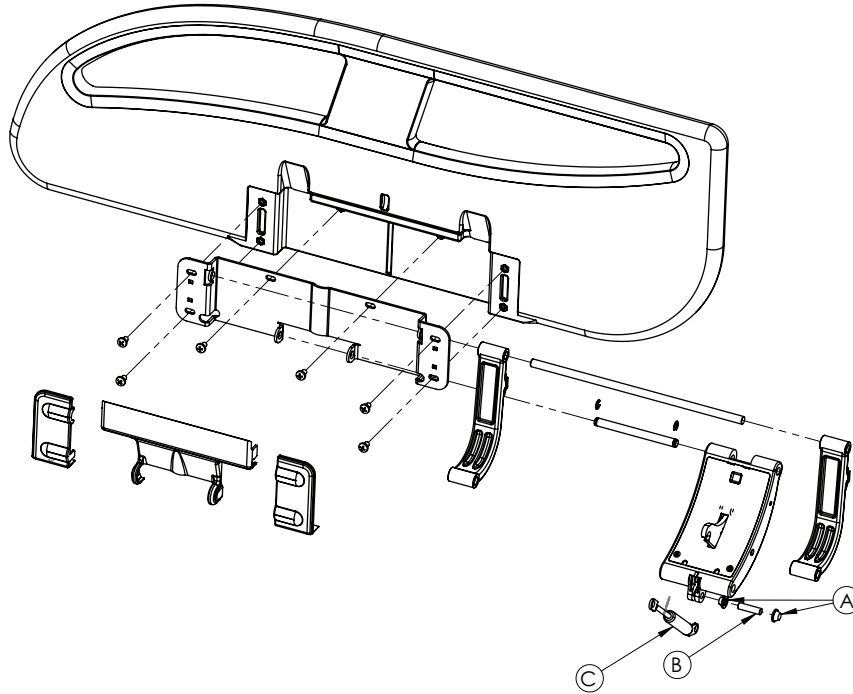

Figure 10 – Head end siderail gas cylinder
6. Using a large flat screwdriver and a hammer, remove one of the push nuts (A) that secures the bottom of the head end siderail gas cylinder (C) to the siderail mechanism (Figure 10).
7. Remove the pivot pin (B) (Figure 10).
8. Remove and discard the head end siderail gas cylinder (C).